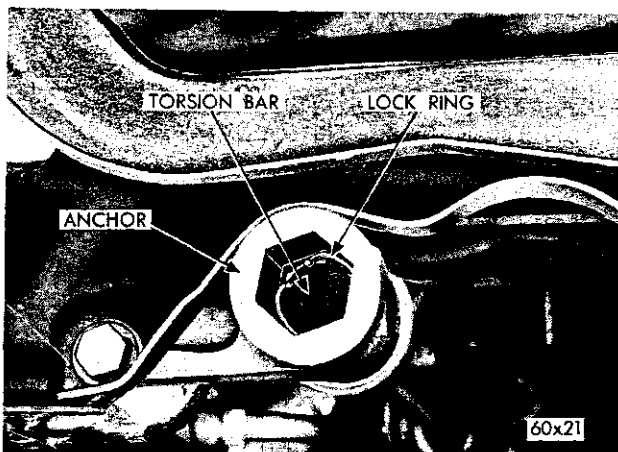
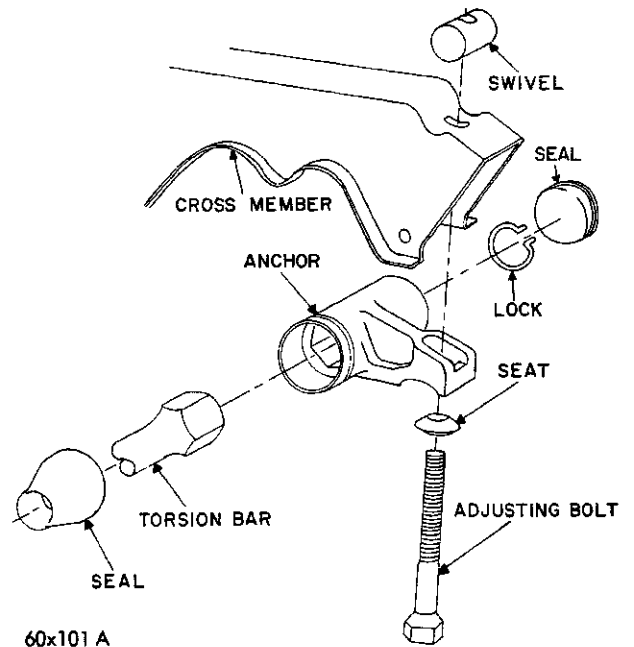

Fig. 4—Torsion Bar Lock Ring
Fig. 5—Torsion Bar Rear Support Assembly
(3) Remove the plastic seal (Fig. 4) from the rear end of the torsion bar anchor. Remove the lock ring from the rear of the torsion bar anchor (Fig. 5).
(4) Slide the torsion bar toward the rear of the vehicle sufficiently to disengage the forward end from the lower control arm. Slide the torsion bar forward and down, disengaging it from the anchor. Remove the torsion bar from under the vehicle.